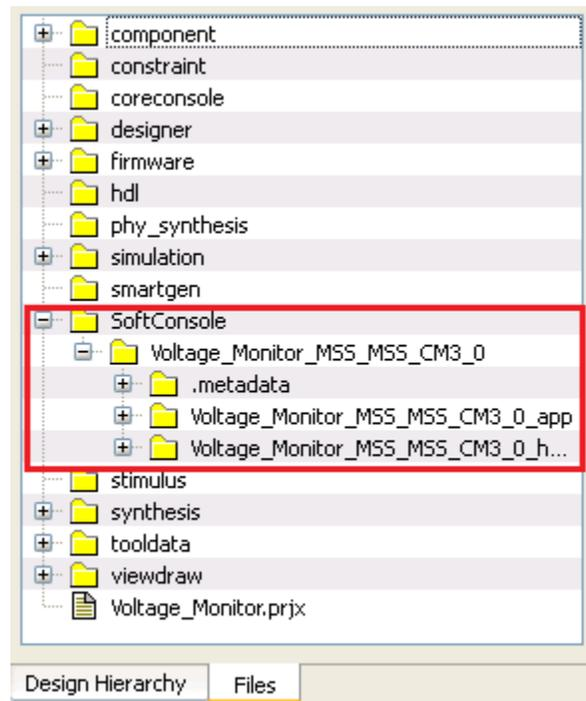

Figure 23 · Files Window
8. Confirm that the SoftConsole folder is created with the folders and files as shown in Figure 23 . .